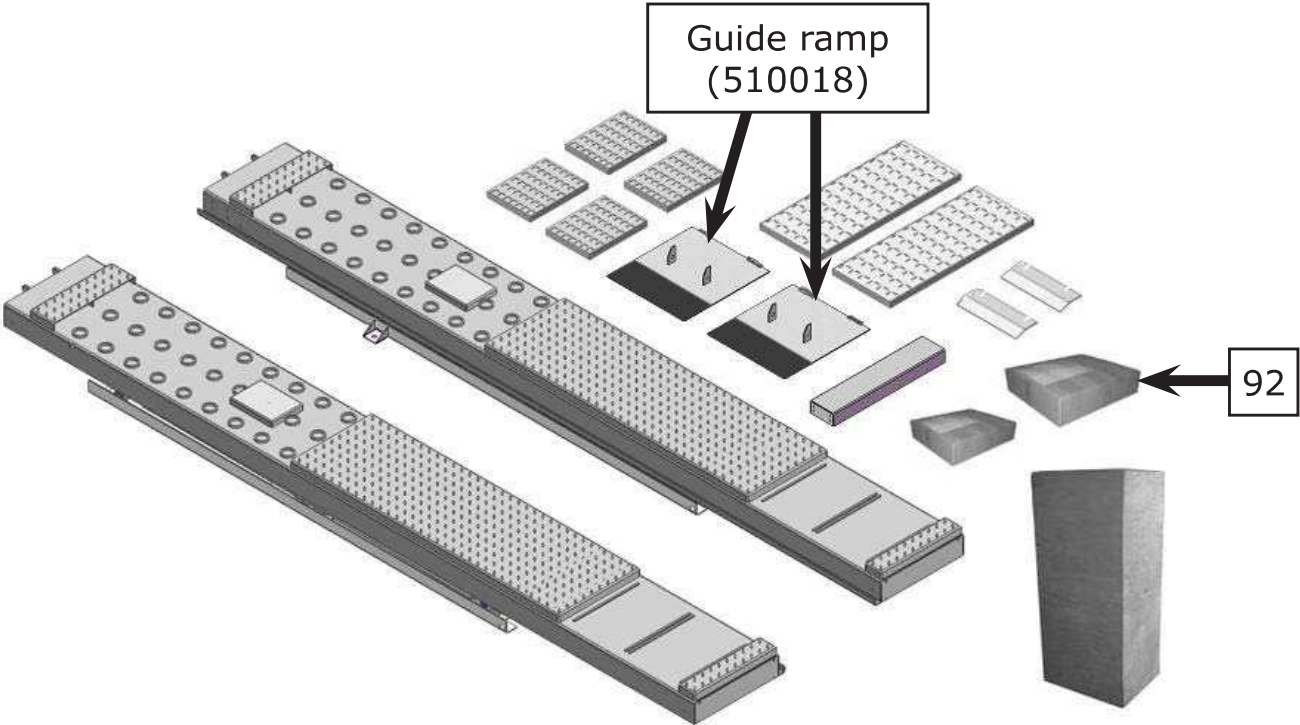

Fig. 9
2.2 Parts for flush mount installation (See Fig. 9)